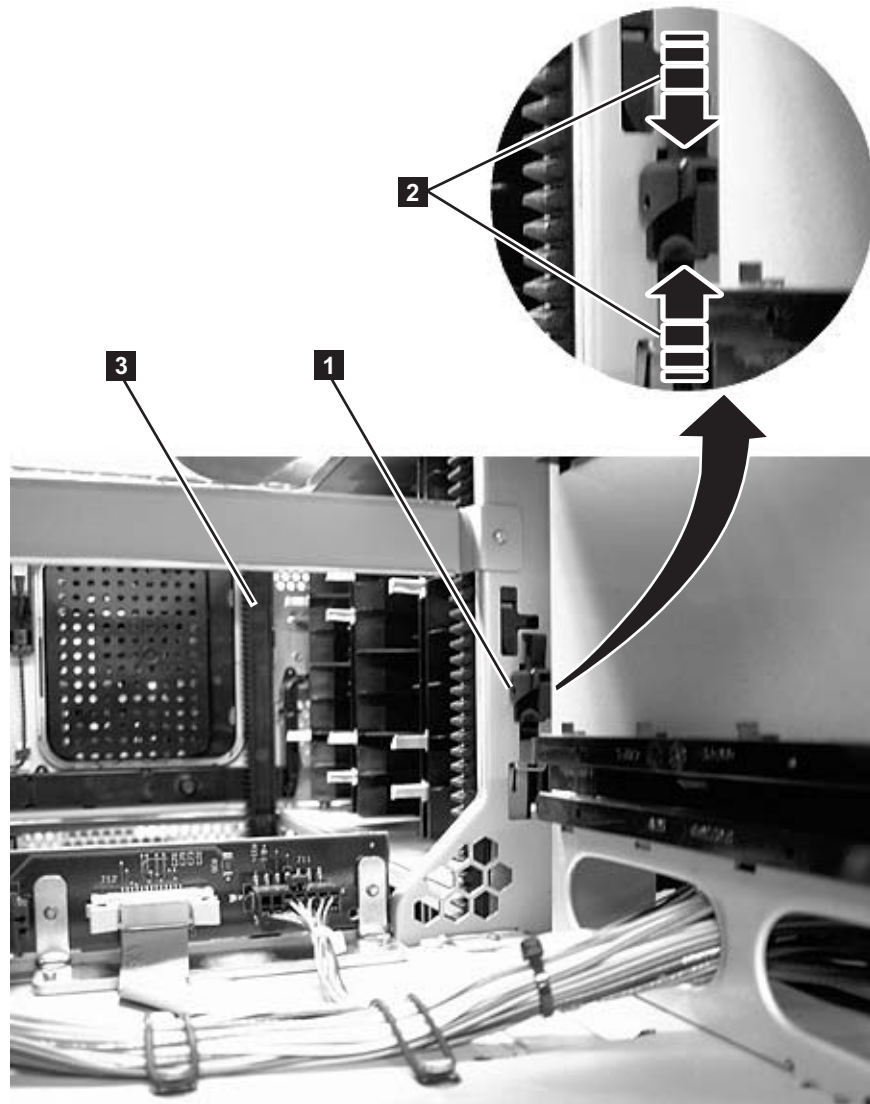

Figure 12-2. Gear racks and gear rack locking mechanism
3. Disengage the rear (**1** in Figure 12-2) and front (**3** in Figure 12-2) gear racks in the control module. While pinching the gear rack locking mechanism (**2** in Figure 12-2), push the gear rack up until it locks in place. To release the gear rack and move it up, perform the following steps.